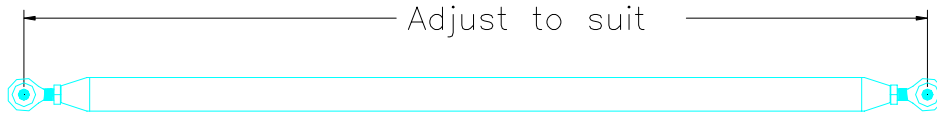

Figure 15.4.2
2) Adjust the connector tube to fit between the Control Sticks. Make sure to keep the sticks vertical. Figure 15.4.2.